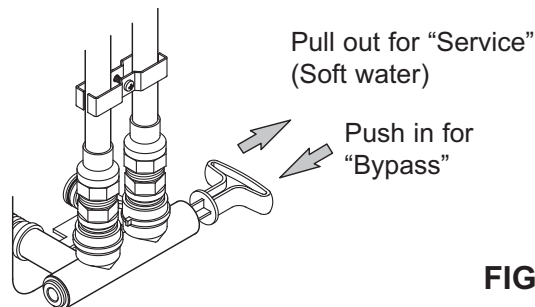

FIG. 7
Always install either a single bypass valve (provided), as shown in Figure 7, or, if desired, parts for a 3 valve bypass system (not included) can be purchased and assembled, as shown in Figure 8. Bypass valves allow you to turn off water to the softener for maintenance if needed, but still have water in house pipes. Pipe fittings must be 3/4" minimum.
2. Place the bypass valve (single or 3 valve) into the "bypass" position. See Figures 7 & 8 on Page 7.